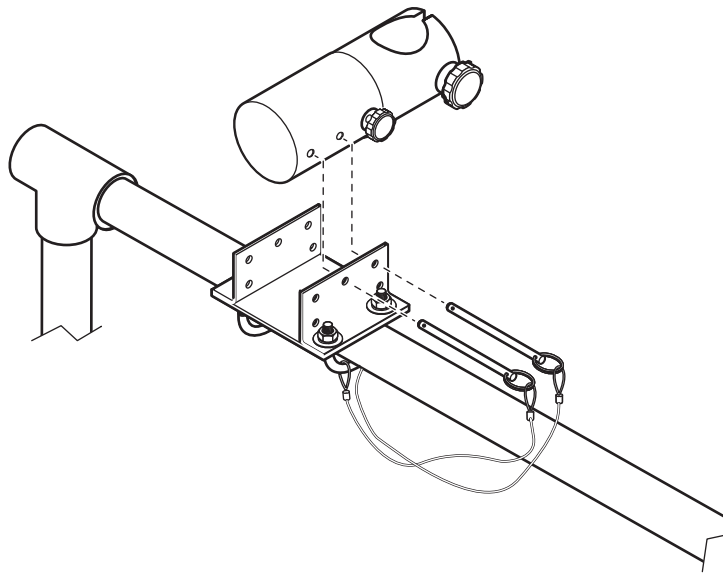

Figure 4: Installing the immersed pipe bracket
2. Fit the immersed pipe bracket (joint) to the mounting bracket using the two locking pins (Figure 4: on page 6).